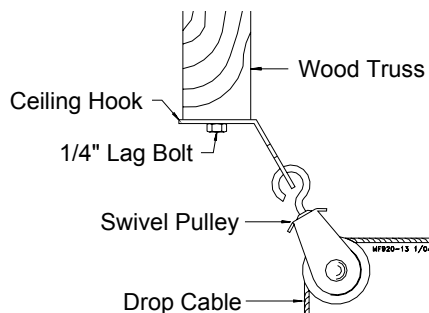

Figure 18. Pulley Installation
6. After securing the Ceiling Hook to the truss, slide the hook of a Swivel Pulley into the slot, as shown in **Figure 18**.